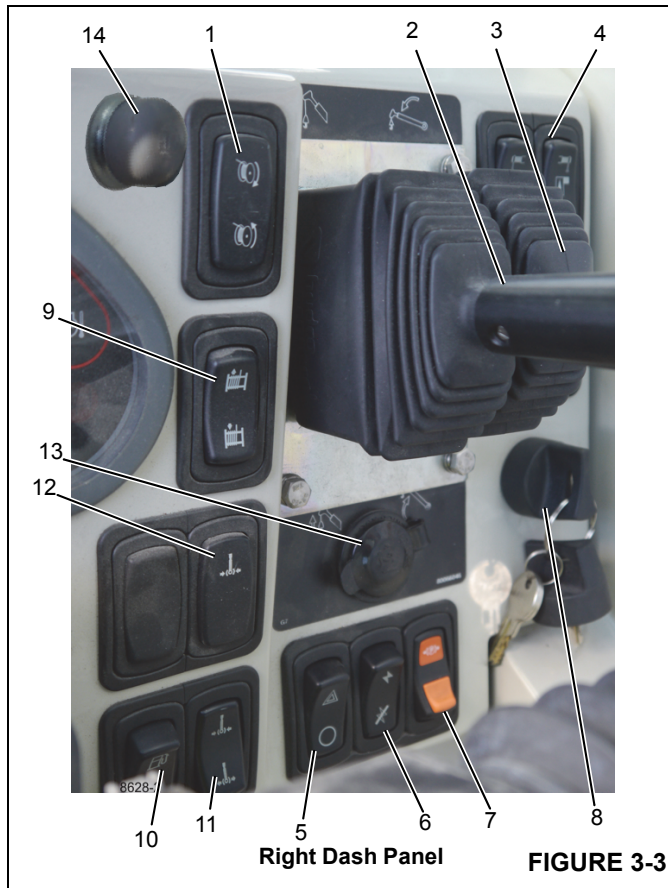

FIGURE 3-3
Refer to Figure 3-3.
The RCL Override Switch (1) (Figure 3-3) is a momentary type rocker switch, push and hold the top of the switch to disengage the RCL controls. Releasing the switch allows the RCL controls to re-engage.